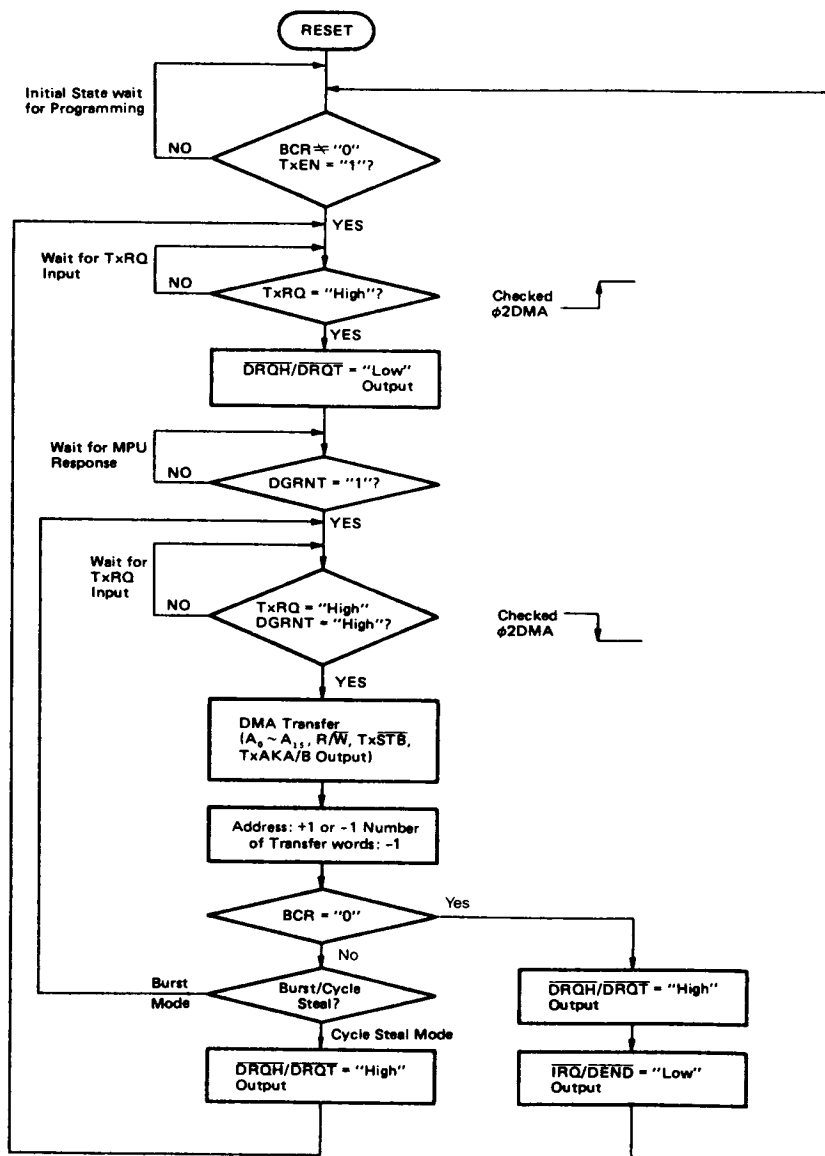
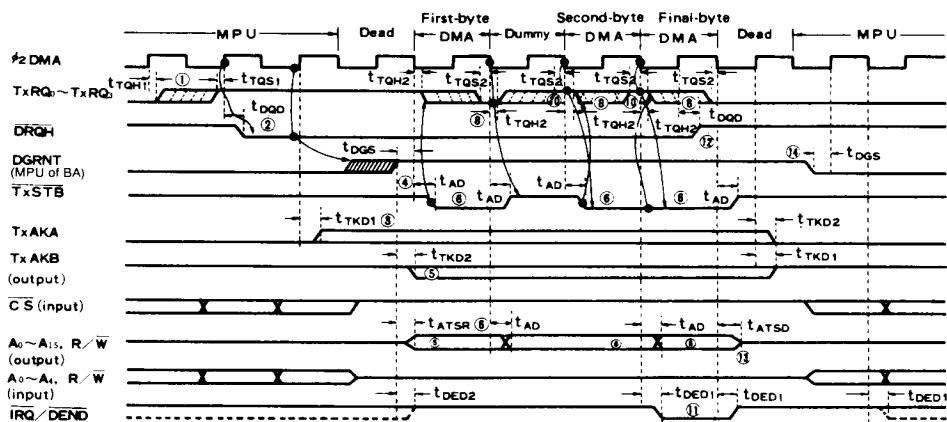
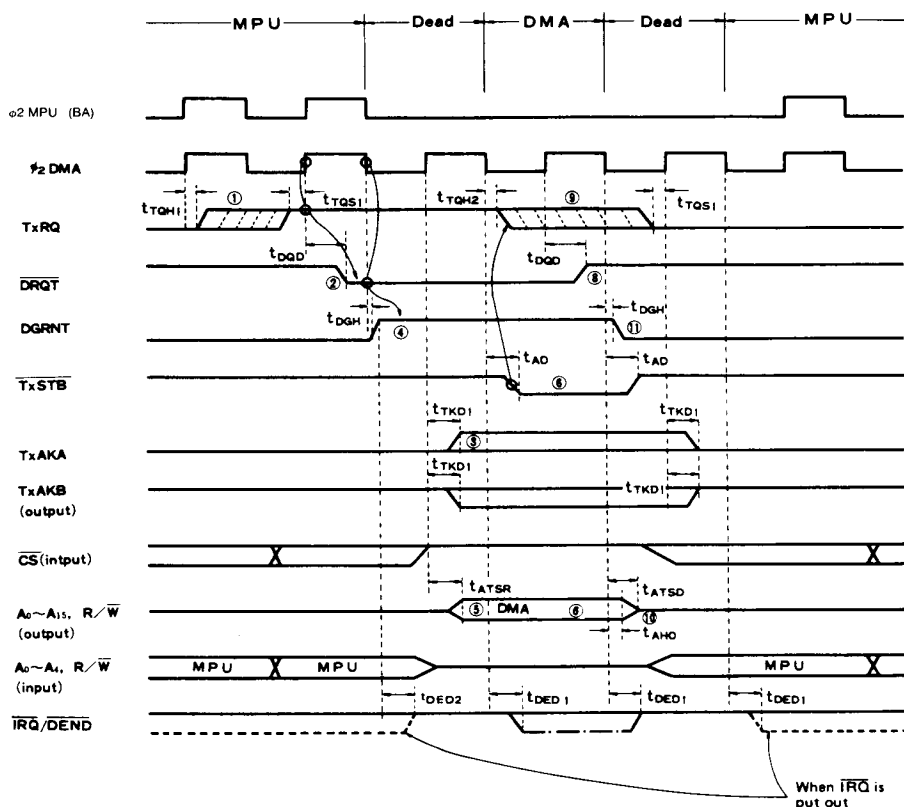

Figure 13 Flow Chart of DMAC Operation
Figure 16 HALT Burst Mode
Figure 17 TSC Cycle Steal Mode
Timing chart is shown in Fig. 12 and flow chart is shown in Fig. 13. Procedure of transfer operation is the following. (No. ① ~ ⑩ in Fig. 12 correspond to the following items.)
- ① TxRQ0~TxRQ3 input is checked at the rising edge of  $\phi_2$ DMA. When it is at "High" level, it gets into the following operation.
- ② DRQH="Low" is output and MPU is requested to stop its operation.
- ③ TxAKA is driven (Level output).
- ④ MPU stops its operation and DMAC waits until DGRNT goes to "High" level.
- ⑤ When DGRNT goes to "High" level, DMAC drives TxAKB, A0~A15 and R/W lines.
- ⑥ TxSTB is given to perform DMA transfer.
- ⑦ Address is incremented or decremented by one and number of transfer words is decremented by one.
- ⑧ When DRQH rises to "High" level, MPU gets into Instruction Cycle again.
- ⑨ TxRQ falls to "Low" level.
- ⑩ A0~A15 and R/W get into high impedance state again.
Its timing chart and flow chart are shown in Fig. 16 and Fig. 13 respectively. Procedure of transfer is the following (No. ① ~ ⑭ in Fig. 16 correspond to the following items).
- ① TxRQ input is checked at the rising edge of  $\phi_2$  DMA. When it is at "High" level, it gets into the following operation.
- ②  $\overline{\text{DRQH}}$ ="Low" level is given and MPU is requested to stop its operation.
- ③ TxAKA is driven.
- ④ MPU stops and DMAC waits for DGRNT rising "High" level.
- ⑤ When DGRNT rises "High" level, DMAC drives TxAKB,  $A_0 \sim A_{15}$ , and R/W lines.
- ⑥ TxSTB is sent out to perform DMA transfer.
- ⑧ TxRQ falls to "Low" level.
- ⑨ When number of transfer words is 0, from ⑪ to ⑭ operations are performed.
- ⑩ When BCR is not "0", TxRQ is checked at the falling edge of  $\phi_2$  DMA. When TxRQ is at "High" level, DMA transfer is performed through ⑥ ~ ⑧ again. When TxRQ is not at "High" level, DMAC waits for becoming "High" level.
In burst mode, TxRQ should be also, in principle, set to "High" when I/O request is asserted, and reset to "Low" when TxSTB goes to "Low". If TxRQ is asserted as level input without being reset, DMA transfer is performed at all cycles of  $\phi_2$  DMA since TxRQ is always at "High" level at the falling edge of  $\phi_2$  DMA. Its example is shown in the second-byte and the third-byte transfer in Fig. 16.
Its timing chart and flow chart are shown in Fig. 17 and Fig. 13 respectively.